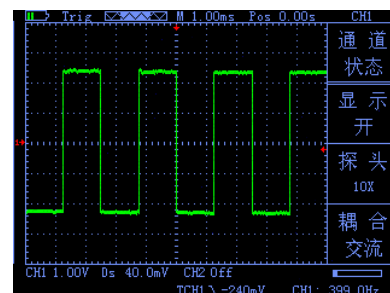

Figure 2-9
- If you set the vertical direction 1.00V/div, the steps in the above example. As Figure 2-9